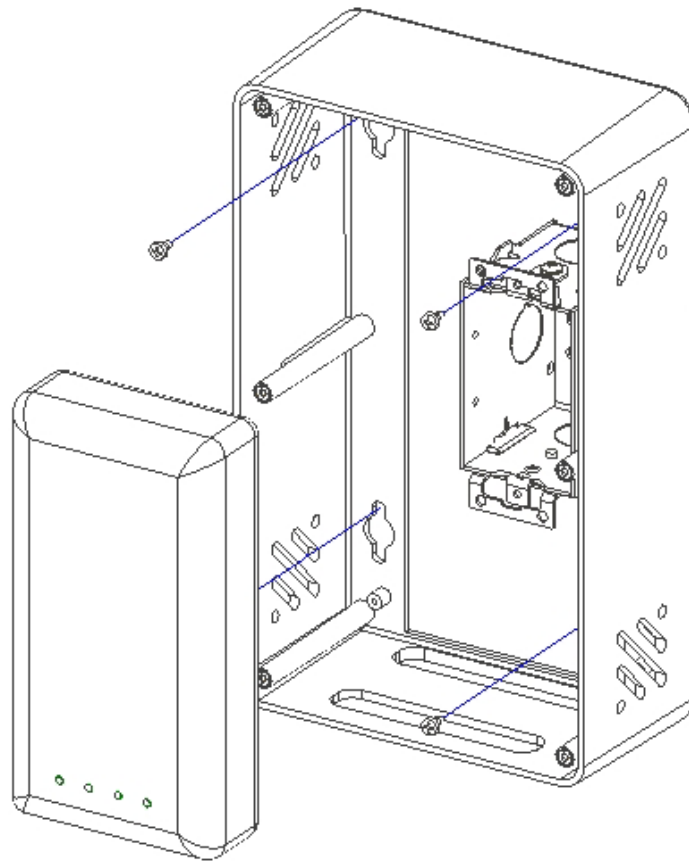

Figure 1 - Access Point Install Over Wall Plate
Step 2 – Fasten the enclosure to the surface using the pre-drilled hole locations and wall anchors or other hardware. Attach the Ethernet cable to the access point and attach the access point to the data wall-box using the manufacturer's specified mounting plate (Figure 1).